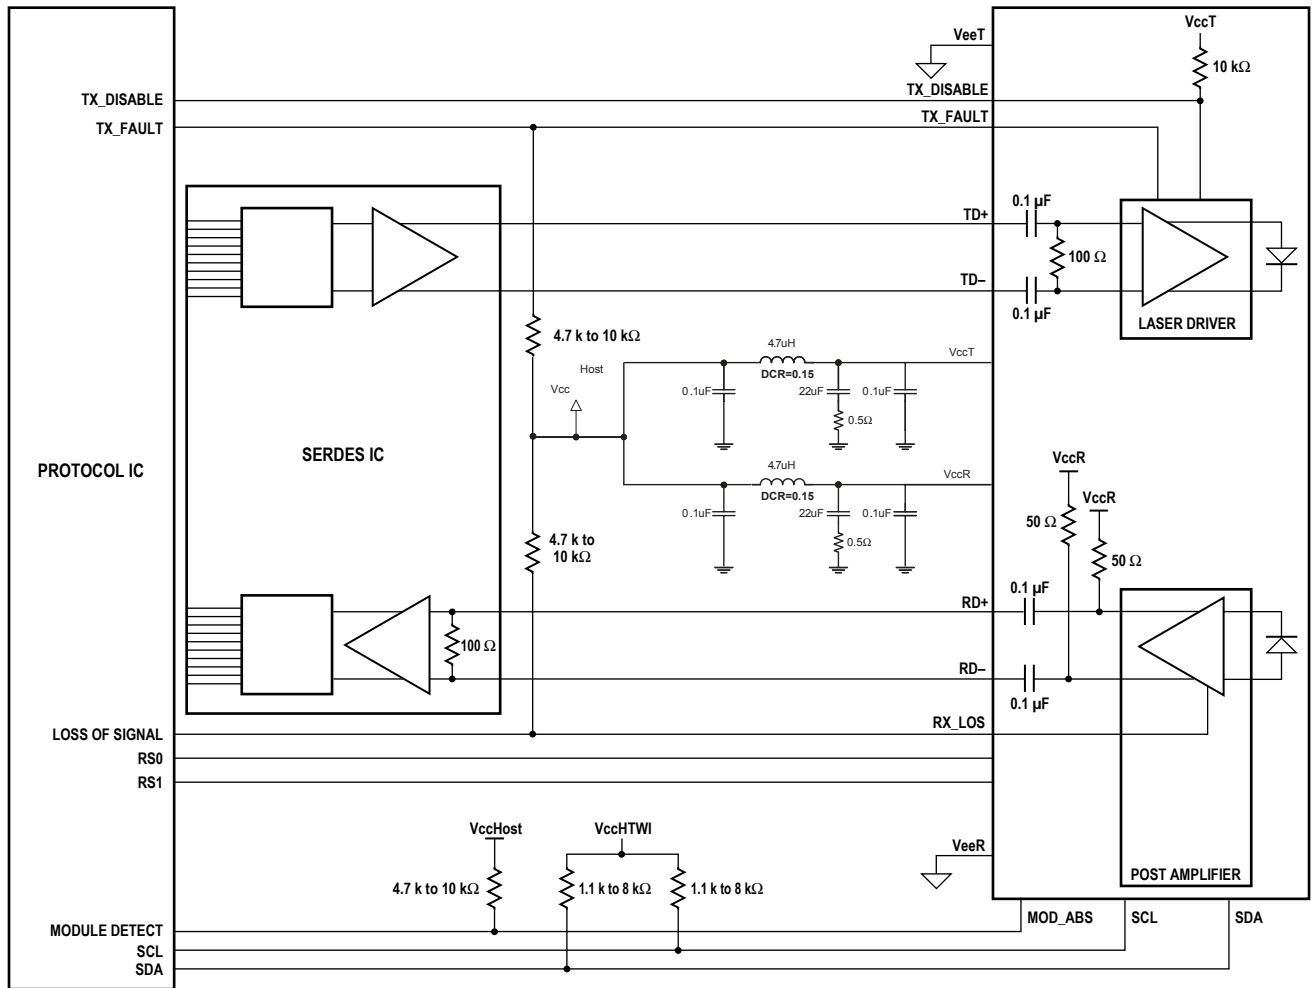

Figure 2. Typical application configuration
Figure 2 depicts the recommended interface circuit to link the AFBR-700SDZ to supporting physical layer ICs. Timing for the dedicated SFP+ control signals implemented in the transceiver are listed in Figure 6.
2. This is an open collector/drain output that on the host board requires a 4.7 kΩ to 10 kΩ pullup resistor to VccHost. See Figure 2.